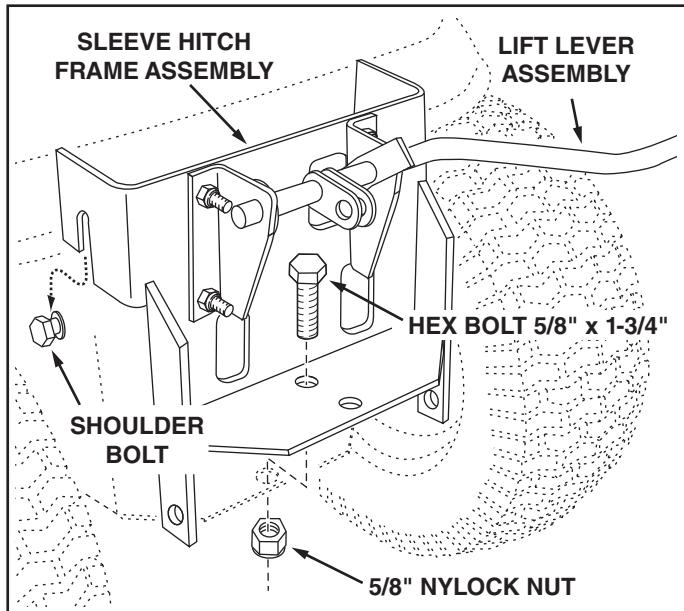

FIGURE 4
- Hook the sides of the Sleeve Hitch onto the shoulder bolts in the sides of the tractor frame. Attach the bottom of the Sleeve Hitch to the tractor hitch using a 5/8" x 1-3/4" hex bolt and a 5/8" nylock nut. See Figure 4.